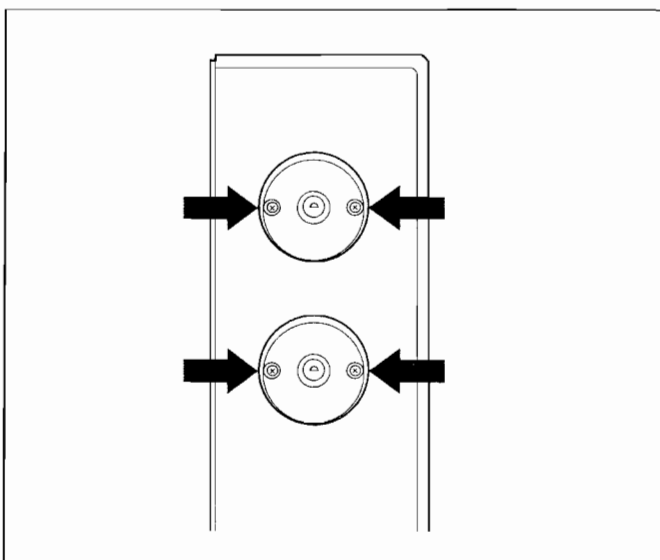

Fig. 17
- (B) Remove Knobs and remove 4 screws holding the timer. (Fig. 17)